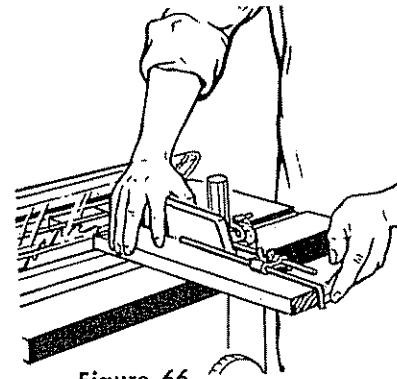

Figure 66
- If the work overhangs the saw table enough to sag at each end, provide supports the same as in ripping operations. The stop rod on the miter gauge, or a stop block fastened to the extension, is used to fix position of left-hand edge of work for measuring length of piece to be cut off. (See figure 66.)